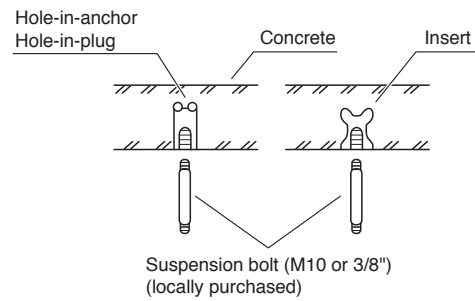

Fig. 6-1
- (1) Fix the suspension bolts securely in the ceiling using the method shown in the diagrams, by attaching them to the ceiling support structure, or by any other method that ensures that the unit will be securely and safely suspended. (Fig. 6-1)
- (2) Follow the diagram to make the holes in the ceiling.